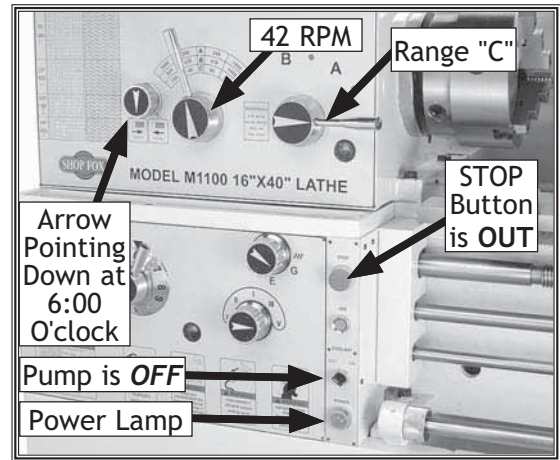

Figure 13. Headstock controls.
2. Rotate the feed rod and lead screw dial so it points down at 6:00 o'clock, move the headstock gear levers to "C", select 42 RPM as shown in **Figure 13**, and make sure the pump switch is **OFF**.